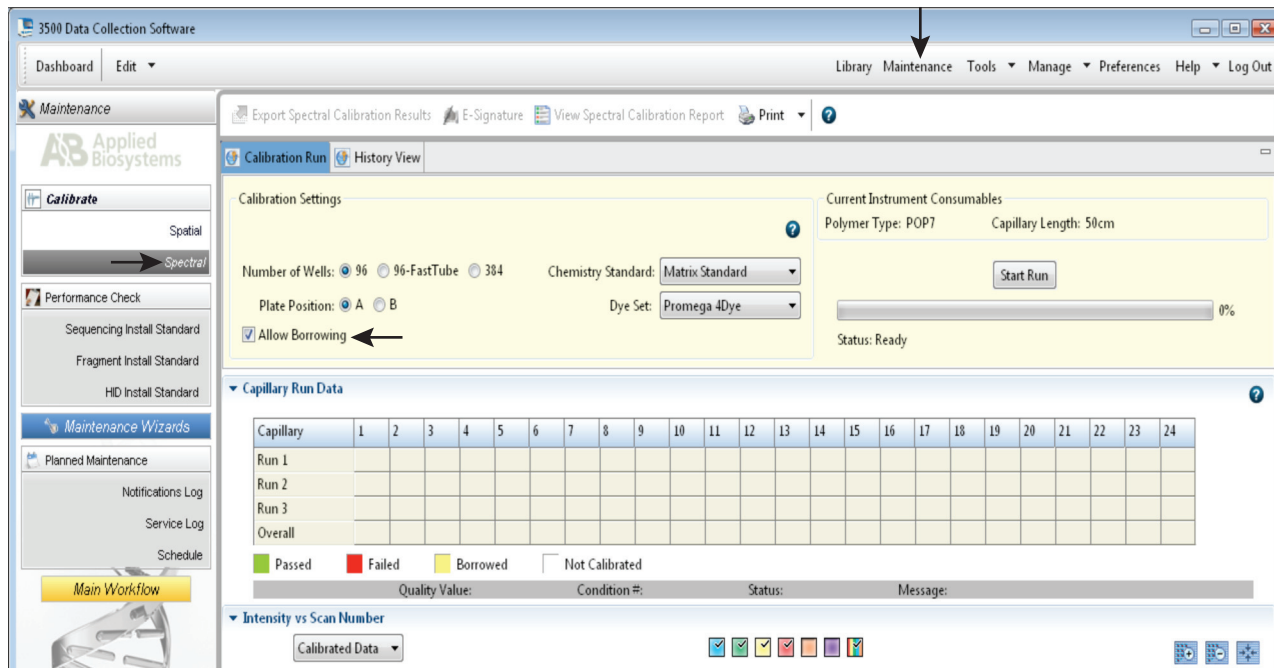

Figure 3. Calibration Run.
c. To perform a spectral calibration with the Promega 4-dye chemistry, choose “Maintenance” from the Menu bar, then choose “Spectral” in the navigation pane. Under Calibration Settings, choose “Matrix Standard” as the Chemistry Standard, and select the name of the dye set you created in Step 2.b. Check the Allow Borrowing checkbox. Select other options as shown in Figure 3.